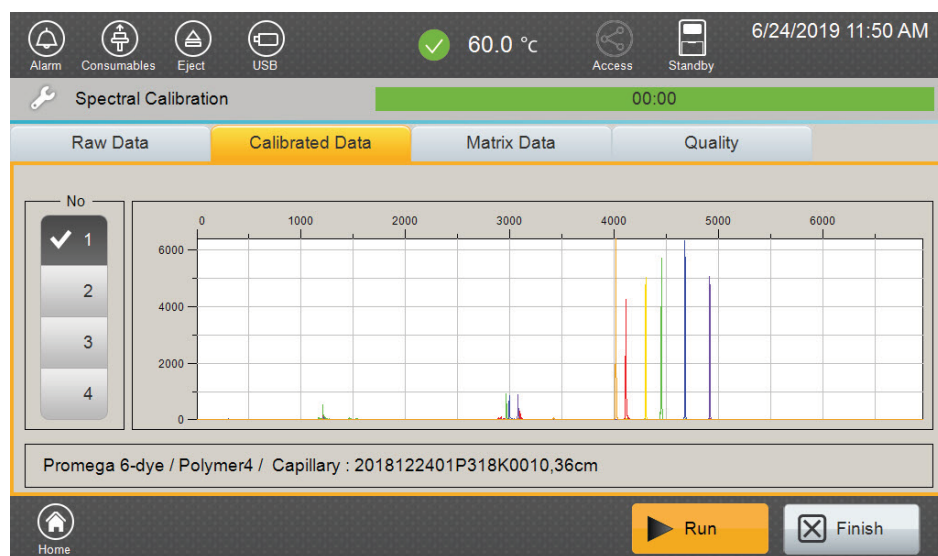

Figure 25. Spectral Calibration 'Calibrated Data' tab screen.
2. The 'Calibrated Data' tab can be used to view the matrix peaks with both baseline and spectral applied for each capillary (Figure 25).